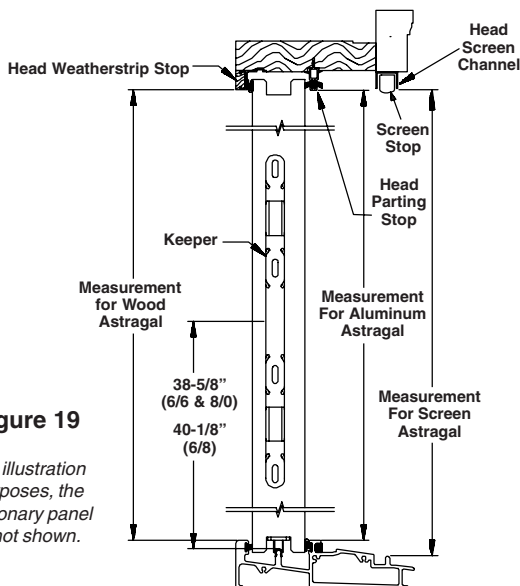

Figure 19
6. The keeper now needs to be applied to the panel with the dummy handle. To locate the keeper position on the panel, place the paper template up against the interior stile edge. The Center Line of the template should be at a height of 38-5/8" for 6/6 and 8/0 doors and 40-1/8" for 6/8 doors. This measurement is taken from the bottom of the door panel. See Figure 19.